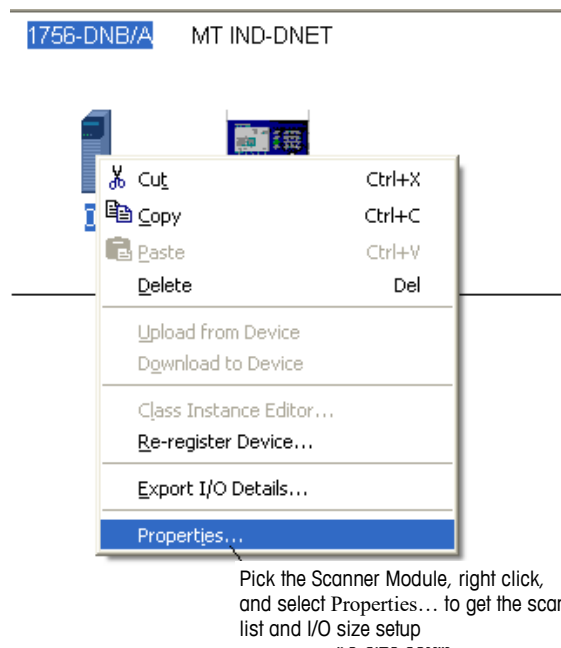

Figure 4-21: Accessing Scanner Properties
- Once the scanner has browsed the entire network, add IND Terminal to the 1756-DNB/A's scanlist by right-clicking on the scanner icon in the Graph window (note the tab at the bottom of Figure 4-21), and choosing Properties...